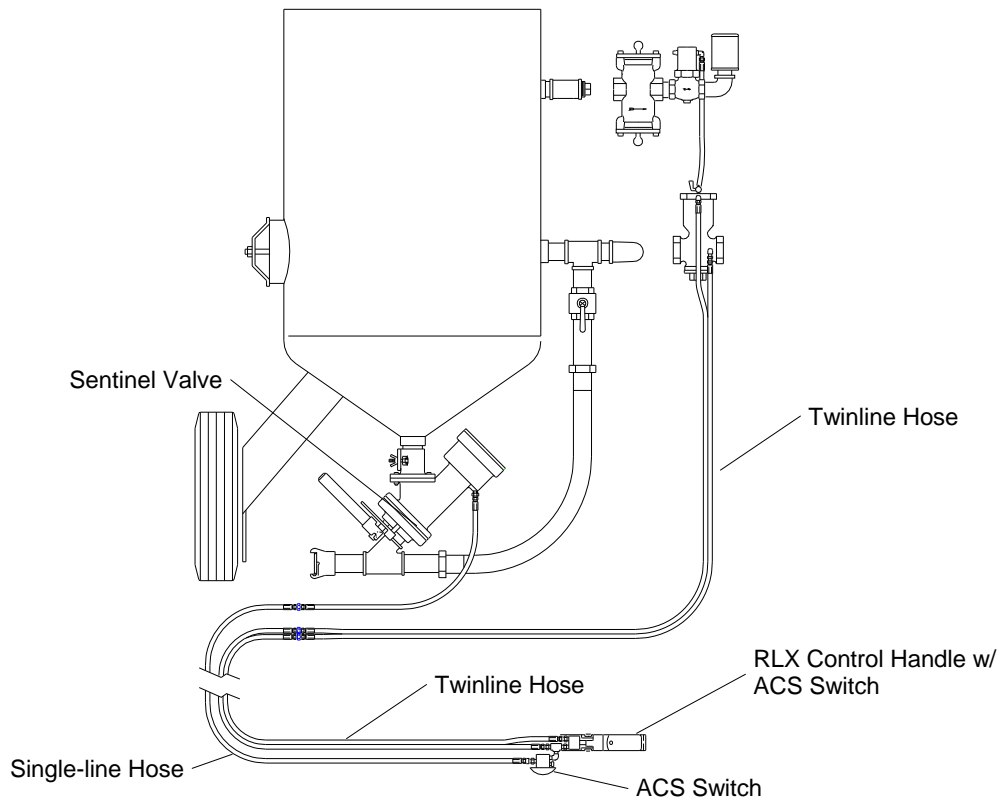

Figure 1
1.3.1 The Sentinel is a normally-closed, pneumatically-operated media control valve. The valve can be used with a pressure-release system, as shown in Figures 1 and 2, to stop the abrasive flow each time the blast machine is depressurized. It can also be used with a pressure-hold system, to stop the abrasive flow while the machine remains under pressure.
**2.8.1** If a Clemco remote control with ACS control handle is used, connect the "single" control line to the fitting on the upper body as shown in Figure 1. Refer to the blast machine and remote control manuals for set-up and operation of the particular equipment.